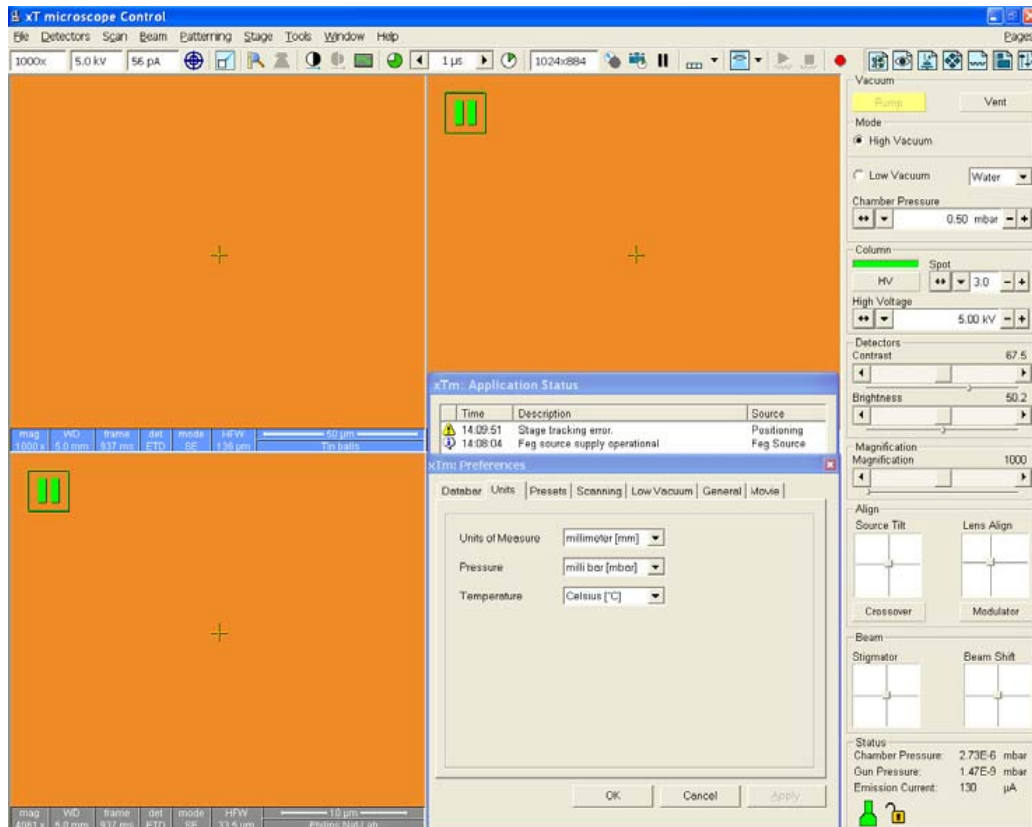

Figure 3 – Main Window
- 2.1 Click on quadrant 1 (top-left quadrant, refer to figure 3) and select **ETD** for the installed Detectors
- 2.8 Begin image scanning by press **F6** or click on the Pause icon  in the toolbar (refer to figure 3).
- 2.9 Focus and optimize the image by correcting the contrast, brightness and astigmatism. For automatic contrast and brightness adjustment, press **F9** or click on the Auto Contrast Brightness icon  in the toolbar (refer to figure 3).
- 2.21 For image capturing, press **F2** to activates a single preset high resolution slow scan which pauses at the end of the frame. The resulting image can be stored with the **File / Save or Save As** function (refer to figure 3).